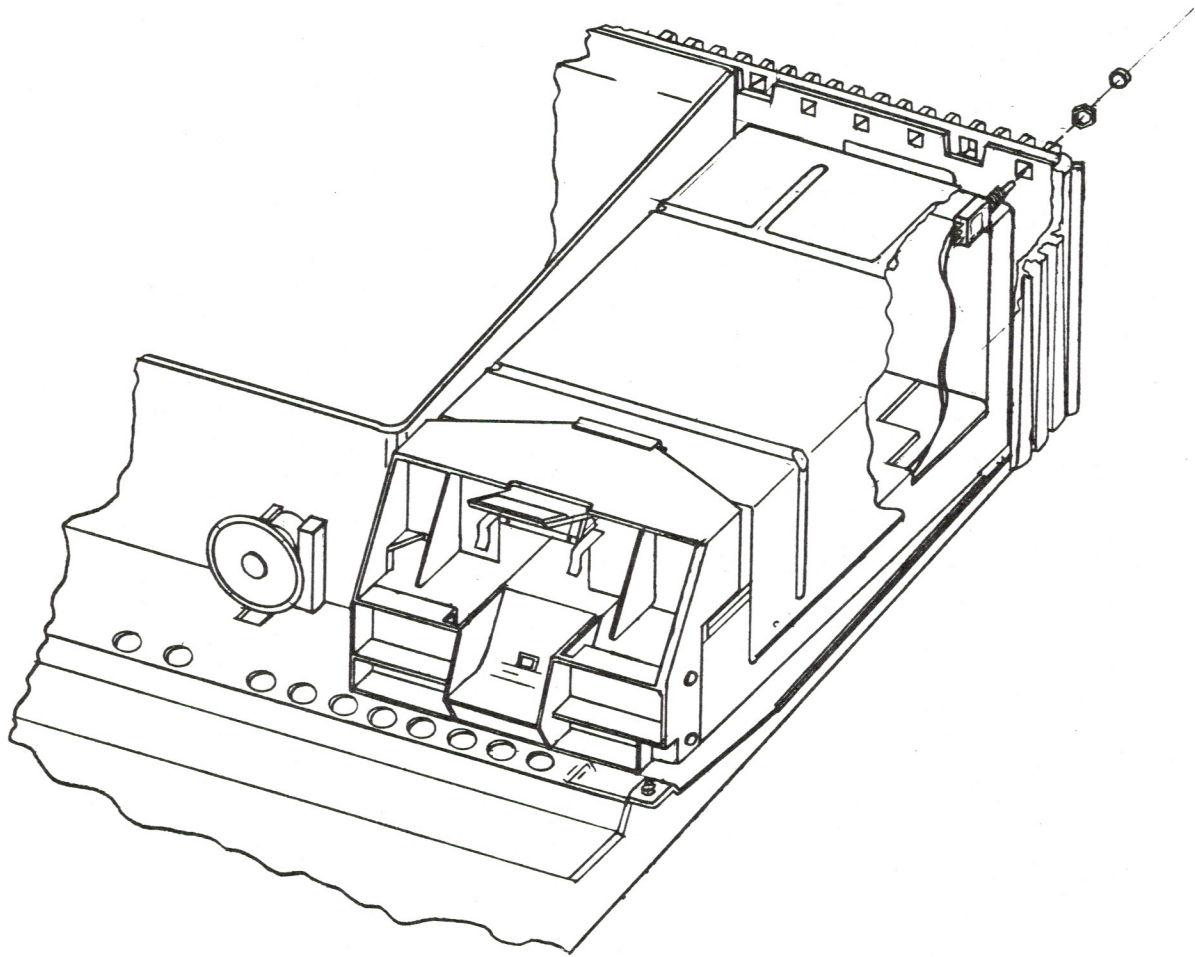

FIGURE 2
4. Locate the Disk Drive Ribbon Cable hole in the casting (see Figure 2). Insert and route the Interlace Switch and attaching wires through the hole as shown.
5. Turn the Apple /// right side-up and locate the square hole in the upper right hand corner of the casting (refer to Figure 2). This is the hole you will install the Interlace Switch in. Because of the lack of room, it will be necessary to hold the hex nut with needle nose pliers. Insert the switch into the square hole and turn the switch clockwise until it fits snug against the casting.